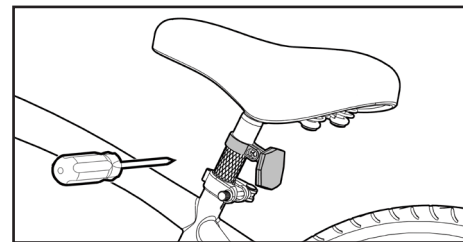

Figure 8
To install the seat post reflector, first remove the seatpost and saddle from the bike. Use (A) Standard Phillips Head Screwdriver to loosen the screw on the clamp of the reflector until you can slide the reflector over the seat post. Once the reflector is on the seat post, reinsert the seat post back into the seat tube. Position the reflector so that it is perpendicular to the ground, move it up on the seat post until it can be seen above the tire when viewing the bike from the rear, and re-tighten screw (see Figure 8).